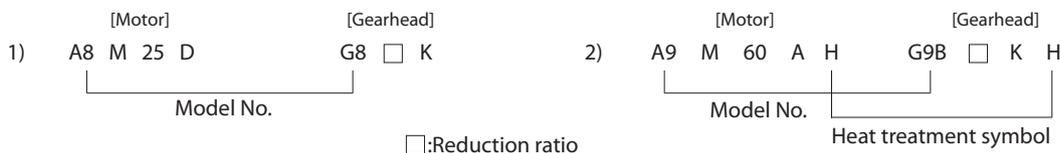

Fig.2 Combination ex. of motor and gearhead
- Please refer to Fig.2 as an example.